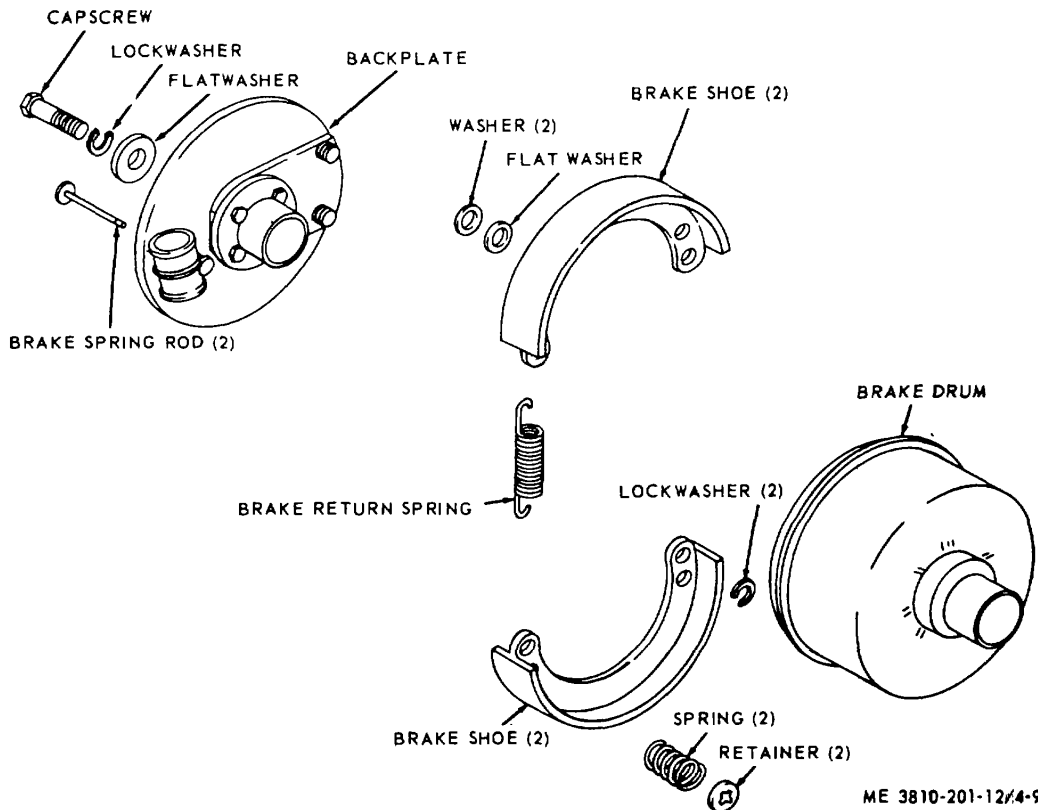

Figure 4-9. Clutch brakeshoes, removal and installation.
(2) Disconnect hydraulic hose at coupling unit
(3) Remove capscrew (fig. 4-9), lock-washer, and flatwasher, then remove backplate from brake drum.
(4) Remove two retainers, springs, and brake spring rods.
(5) Disconnect and remove brake return spring.
(6) Remove two locks, brakeshoes, washers, and flatwashers from back plate.
(1) Position brakeshoes (fig. 4-9) on back plate, install washer and flatwasher, then secure with locks.
- (2) Install brake return spring.
- (3) Install two brake spring rods, springs, and secure with retainers.
- (4) Install back plate in brake drum. Make sure lever (fig. 4-6) is in proper position, then secure back plate to mechanism with flatwasher (fig. 4-9) lockwasher, and capscrew.
- (5) Connect hydraulic hose at coupling nut, position clevis on lever, then secure pin.